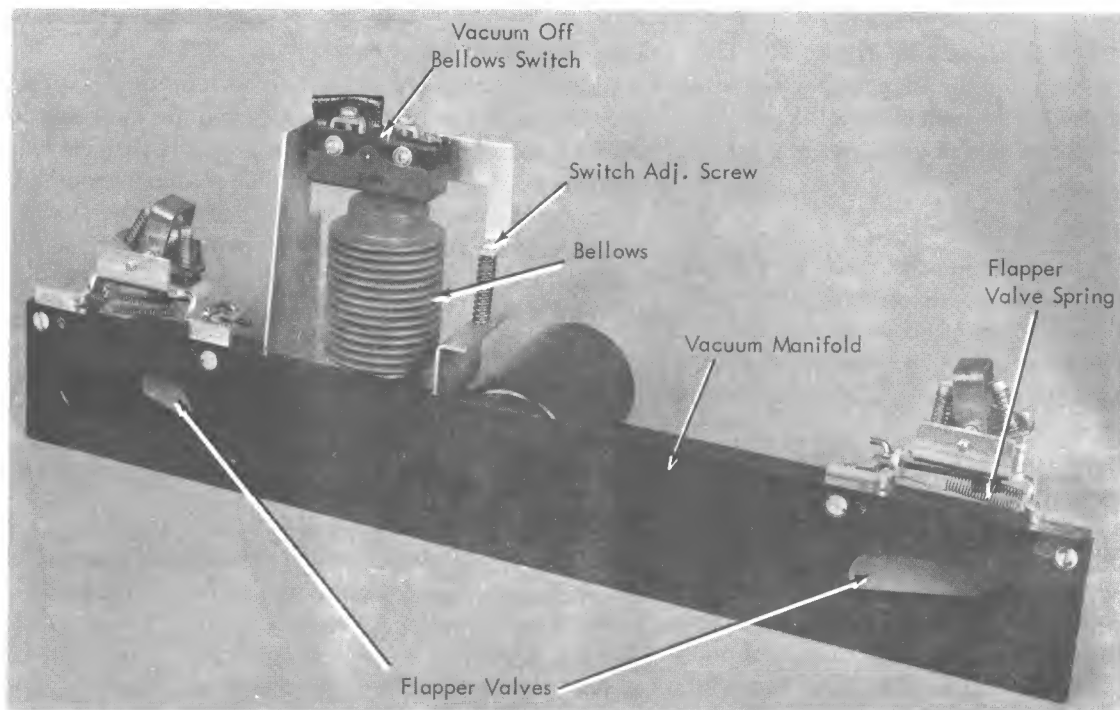

Figure 51. Vacuum Manifold Assembly
A bellows-type vacuum switch allows machine operation only if vacuum is maintained above a certain level. Lack of safe operating vacuum removes power from the tape unit run relays (R1 and R2). This bellows switch (vacuum safety switch) is mounted on the manifold between the vacuum columns (Figure 51).
4. Turn the switch adjusting screw (Figure 51) *clockwise* until the reels stop turning.